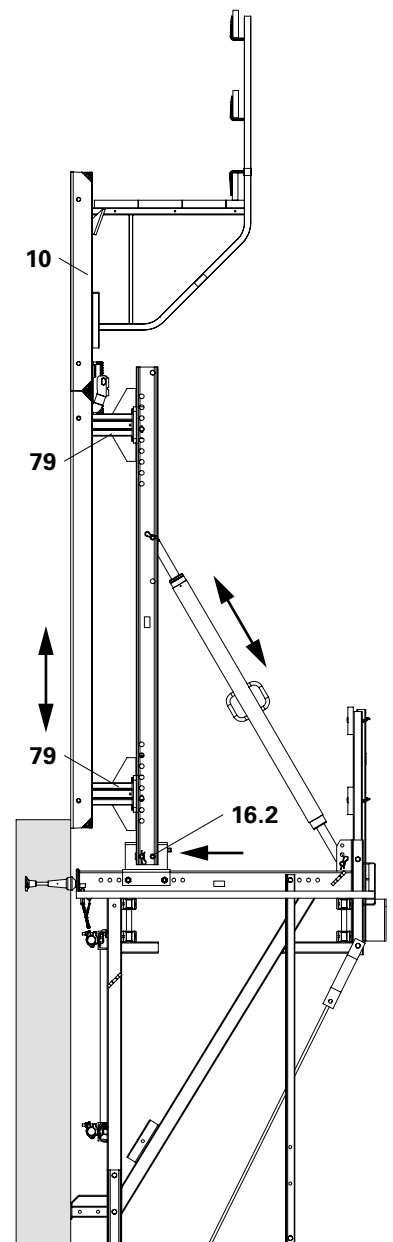

Fig. B2.20
6. Insert formwork (78) with Lifting Hook MAXIMO 1.5 t (80) into the Connectors TRIO-CB (79) and secure using bail $\varnothing$ 25 (79.1).
9. Align formwork, see B3. (Fig. B2.20)